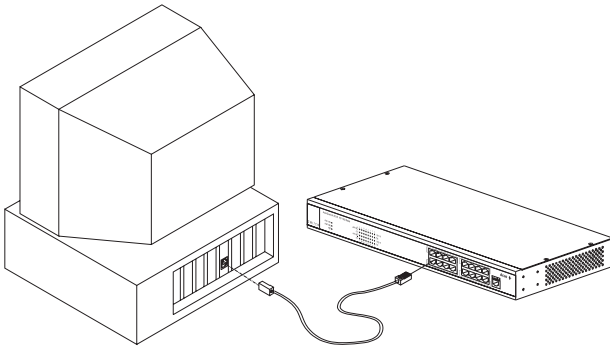

Figure 2-4-1 Connecting to computers
4. Turn on the PC and check if the **Link** LEDs on the adapter card and the switch (Named as **LNK ACT 100/LNK ACT 10**) are lit up. See Figure 2-4-1